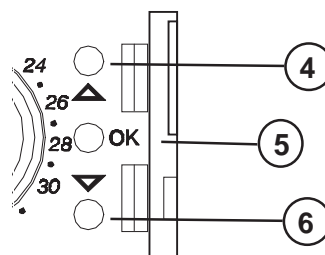

Fig. 6
- 'OK' confirmation (5 – see Figure 6)
- forward (4 – see Figure 6)
- back (6 – see Figure 6)
- 'reset' accessible through hole (7) for internal circuit and program test